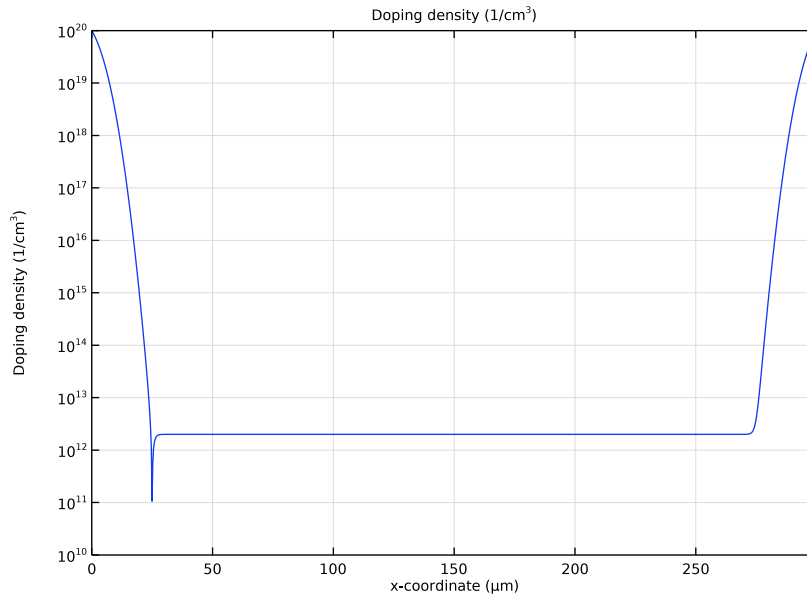

Fig. 4A Hole Distribution
- 2 In the **Settings** window for **ID Plot Group**, type **Fig. 4A Hole Distribution** in the **Label** text field.
- 1 In the **Model Builder** window, expand the **Fig. 4A Hole Distribution** node, then click **Line Graph 1**.
- 8 In the **Fig. 4A Hole Distribution** toolbar, click  **Plot**.
- 1 In the **Model Builder** window, right-click **Fig. 4A Hole Distribution** and choose **Duplicate**.